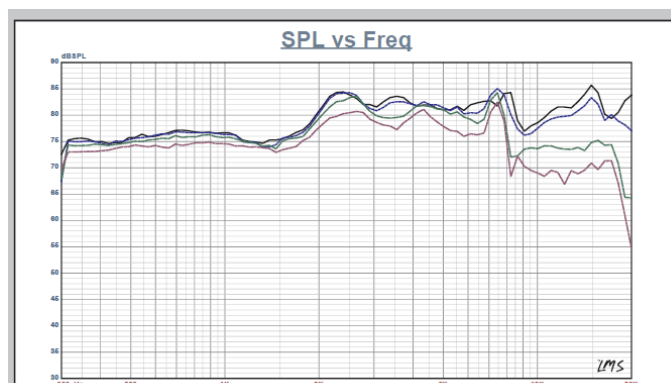
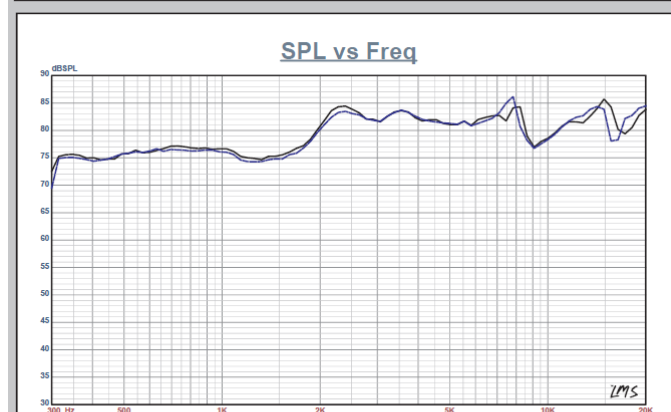

Figure 28: Scan-Speak 5F/8422T01 on- and off-axis frequency response (black solid = 0°, blue dot = 15°, green dash = 30°, purple dash dot = 45°)
Figure 29: Scan-Speak 5F/8422T01 woofer two-sample SPL comparison
**Figure 28** shows the on- and off-axis frequency response at 0°, 15°, 30°, and 45°. The roll-off at 30° off-axis is almost as good as a 1" dome, so I would expect this driver's full-range fidelity to be quite good. **Figure 29** shows the 5F/8822T01's two-sample SPL comparison with a close match to within less than 1 dB throughout the operating range.